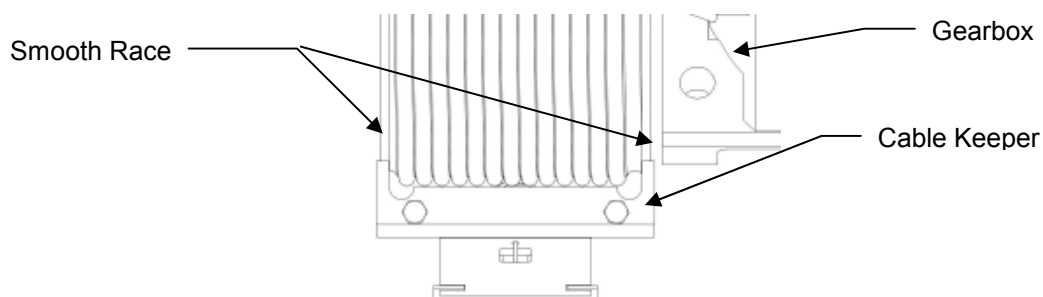

Figure 4 – Cable Keeper Alignment
4. Make sure that the cable keepers are resting on the edges of the drum and do not rub the cable as the drum rotates. See Figure 4.